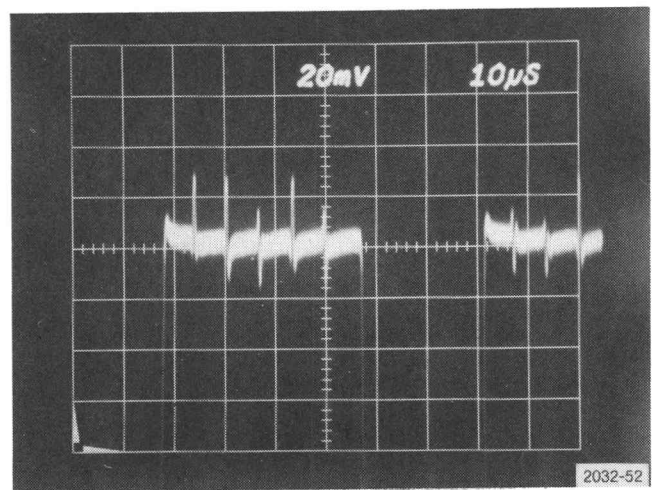
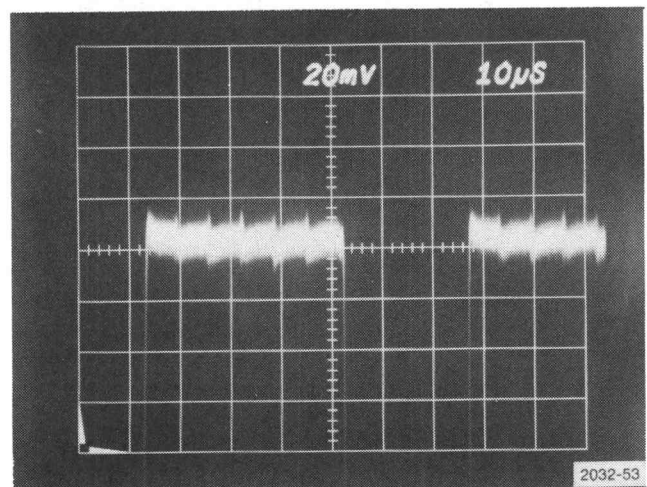

Fig. 5-11. 1420 — Differential Gain check.
Fig. 5-12. 1421, 1422 — Differential Gain check.
- e. CHECK—that tilt on the demodulated subcarrier signal does not exceed 1% of the amplitude noted in part c. See Fig. 5-11 or Fig. 5-12. (Tilt caused by changing luminance levels can be checked by switching staircase steps on and off.)